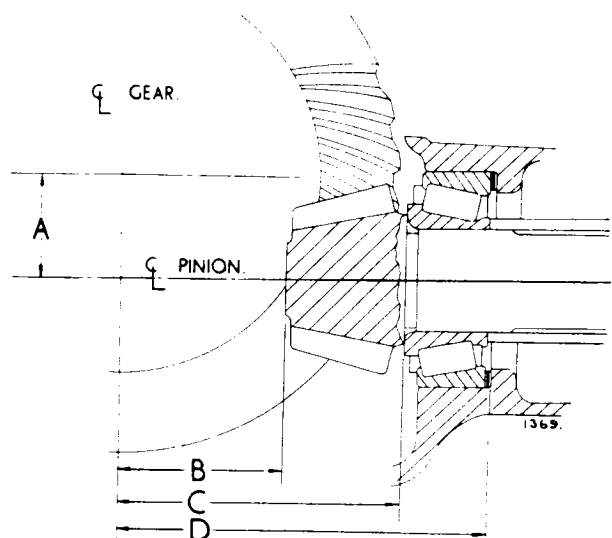

Fig. 33. Pinion setting distances
the drive gear, and care should be taken to keep similarly marked gears and pinions in their matched sets, as each pair is lapped together before despatch to the factory. The letter on the left is a production code letter and has no significance relative to assembly or servicing of any axle. The letter and figure on the right refer to the tolerance on offset or pinion drop dimension "A" in Fig. 33 which is stamped on the cover facing of the gear carrier housing.
The number at the bottom gives the cone setting distance of the pinion and may be Zero (0). Plus (+) or Minus (—). When correctly adjusted, a pinion marked Zero will be at the zero cone setting distance, dimension "B" in Fig. 33 from the centre line of the gear to the face on the small end of the pinion; a pinion marked Plus two (+2) should be adjusted to the nominal (or Zero) cone setting plus .002" (.051 mm.), and a pinion marked Minus two (—2) to the cone setting distance minus .002" (.051 mm.).
The zero cone setting distance ("B" Fig. 33) is given above.